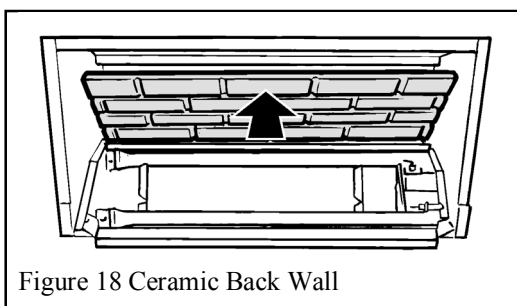

Figure 18 Ceramic Back Wall
1. Place the ceramic back wall in position at the back of the firebox. Make sure that the brick pattern is the right way up so that it will align with the side walls pattern. See figure 18.